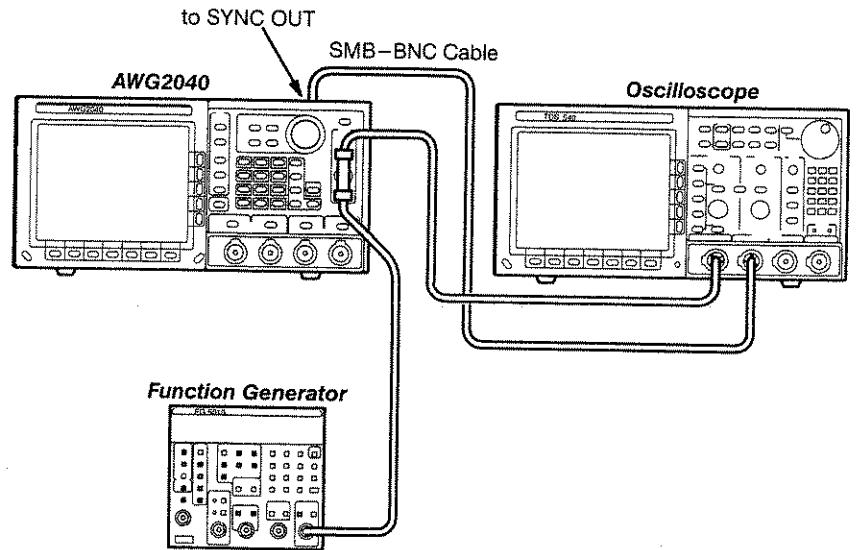

Figure E-18: SYNC Delay Initial Test Hookup
- Connect the function generator output through a BNC coaxial cable to the adapter on the AWG2040 TRIGGER INPUT connector (see Figure E-18).